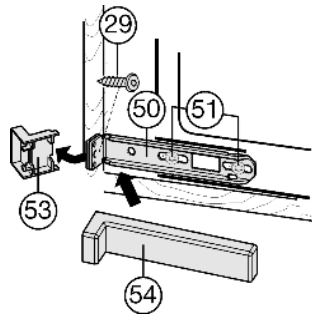

Fig. 21
- ▶ Slightly loosen the screws Fig. 21 (51).
- ▶ Secure the bottom mounting bracket Fig. 21 (50) to the unit wall with a  $\varnothing 4 \times 19$  chipboard screw Fig. 21 (29).
- ▶ Break off the protruding end of the cover Fig. 21 (53).
- ▶ Tighten the screws Fig. 21 (51).
- ▶ Place the cover Fig. 21 (54) into position on the bottom mounting bracket Fig. 21 (50).